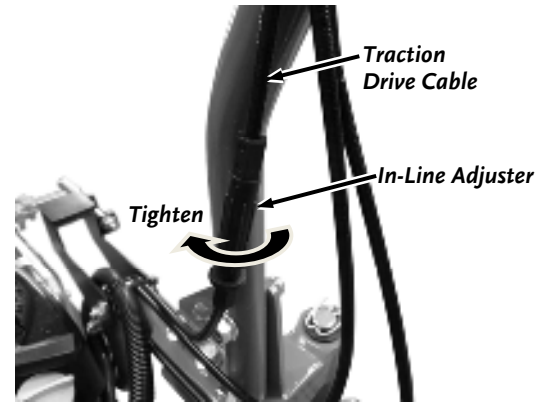

Figure 55
1. Locate the In-Line Adjuster on the Traction Drive Cable along the right Handlebar (**Figure 55**).